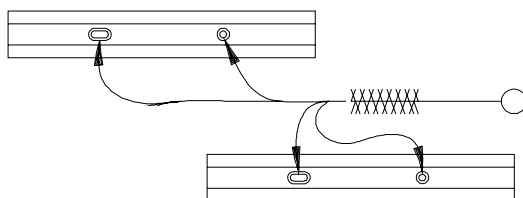

Figure 6-13 Clean beater shaft pin holes.
- The beater shafts and the scraper blade pin holes as shown in figure 6-13.